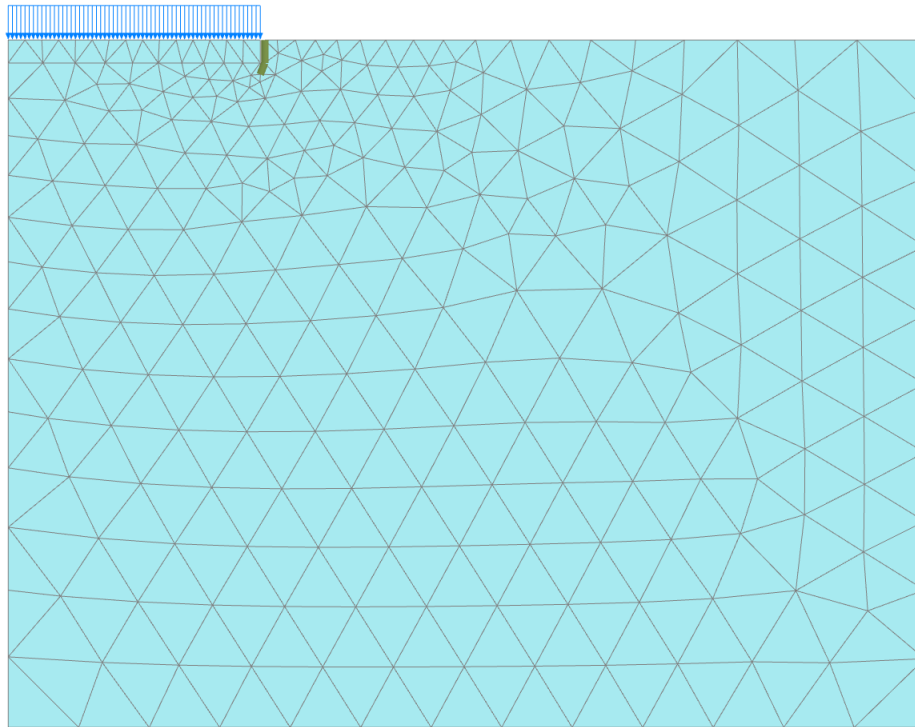

Figure 147: The generated mesh
3. Click the **View mesh** button  to view the mesh as shown in Figure 147 (on page 170).